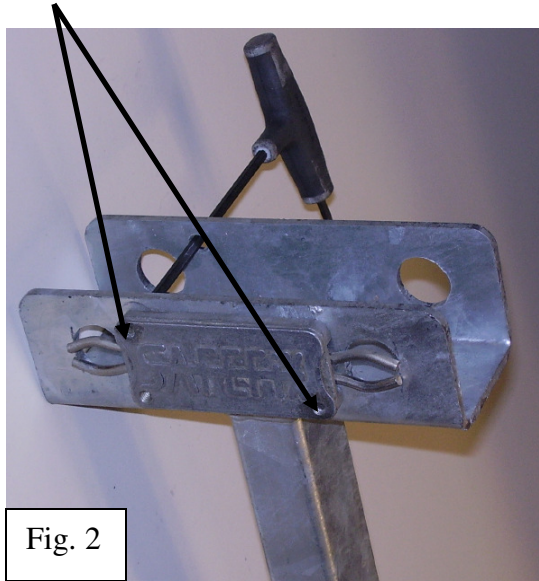

Fig. 2
2. Using 4mm Allen Wrench remove the two screws and **61.050 Safefix Spring Pin Retaining Assembly** and discard. See Fig 2